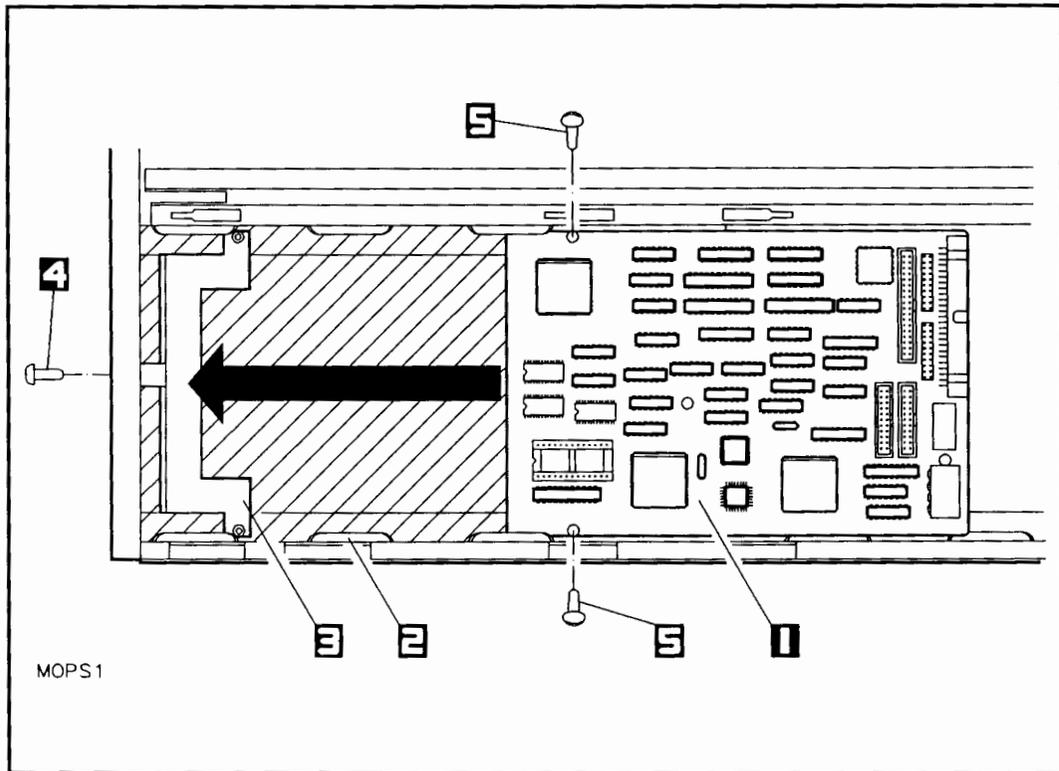

Figure 3-11. Sliding the Rewritable Optical Controller PCA into the PCA Guides
2. Lift the rewritable optical controller PCA from the conductive sheet and slide it into the PCA guides in slot 1 (see Figure 3-10 and Figure 3-11). Make sure that the two holes in the controller PCA toward the front of the mass storage system align with the holes in the mounting bracket beneath the controller PCA.
3. Attach the two bracket-to-PCA screws through the controller PCA into the mounting bracket (see Figure 3-11). Do not over-tighten these screws.